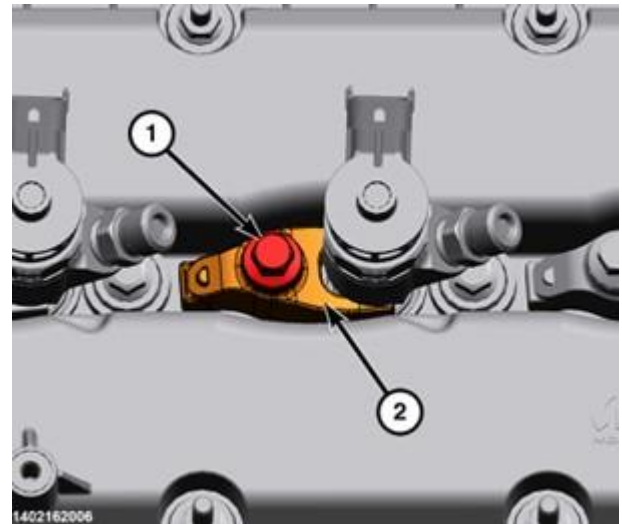

Figure 127 – Fuel Injector Clamps
65. Remove the fuel injector clamp bolts (1) and the fuel injector clamps (2) (Figure 127).